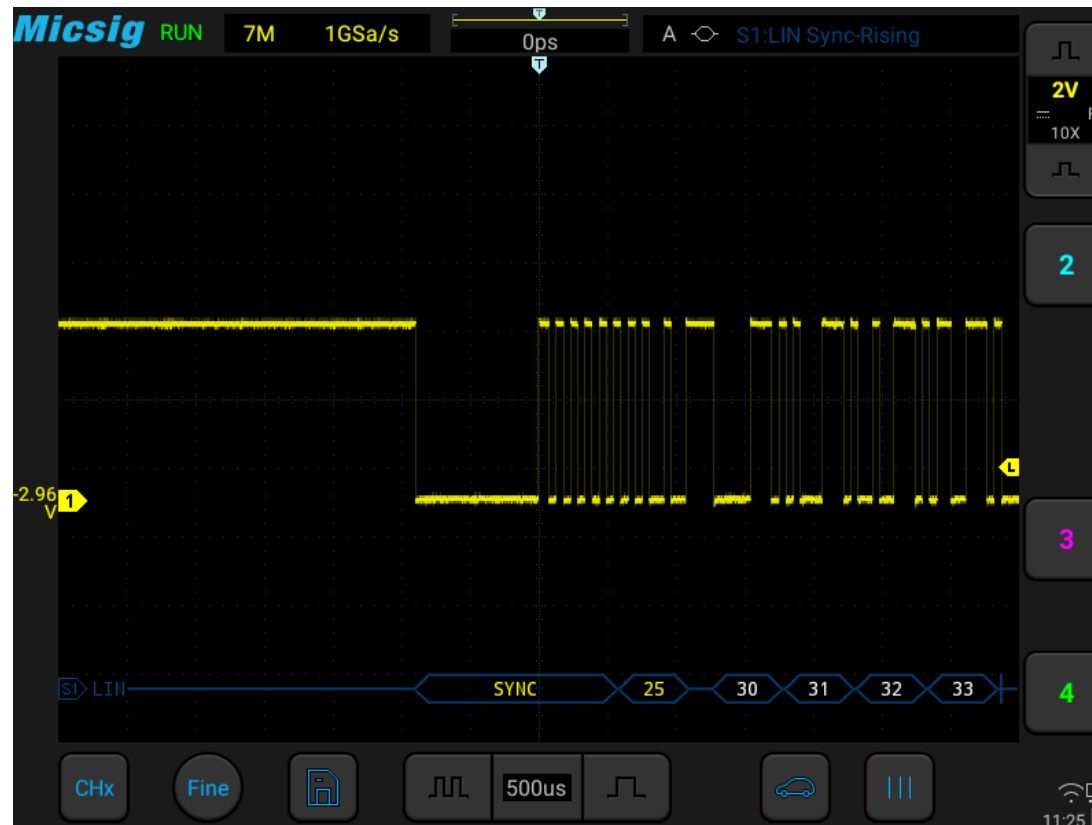

Figure 13-12 LIN Graphic Interface
- (1) Tap S1 to open the decode channel, and click again to open the bus configuration menu;
- (2) Select the bus type as “LIN”, click “Ch1”, “Idle High”, “19.20kb/s”, and then close the menu;
- (3) Open the trigger mode configuration menu and click “Synchronous Rising Edge”;
- (4) Click  configuration information to open the decode channel threshold level adjustment box, and drag the adjustment box upward and downward to adjust the threshold level; adjust the threshold level according to the signal amplitude level to make the signal stably triggered. The LIN trigger graphic interface is shown in Figure 13-12: